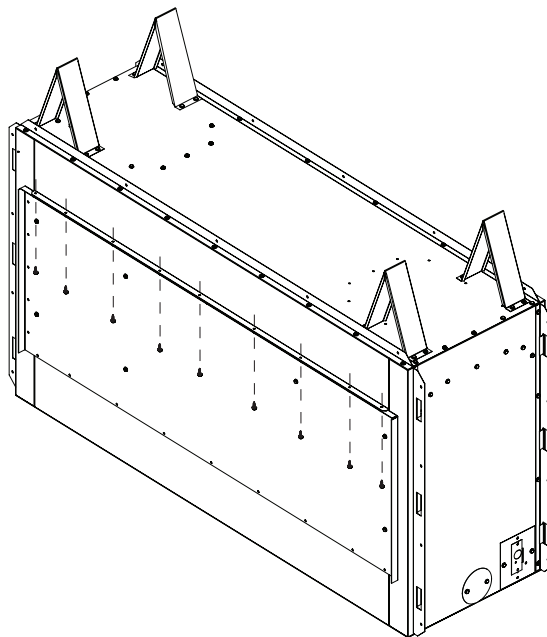

Figure 18 - Removing Rear Panel for See-Thru Applications
1. In the rear of the fireplace, locate screws at top of rear panel and remove as shown in Figure 18. Discard screws and rear panel.